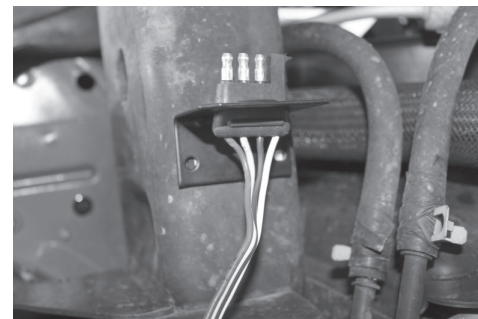

Figure 5
13. Route 4-Flat from bottom of driver's side wheel well to an area on the frame rail suitable for mounting the 4-Flat bracket shown in **Figure 5**.
14. Locate the area in engine compartment along driver's side in front of the battery to mount 4-Flat bracket. Drill two 3/32" holes and attach the bracket using two screws shown in **Figure 5**.